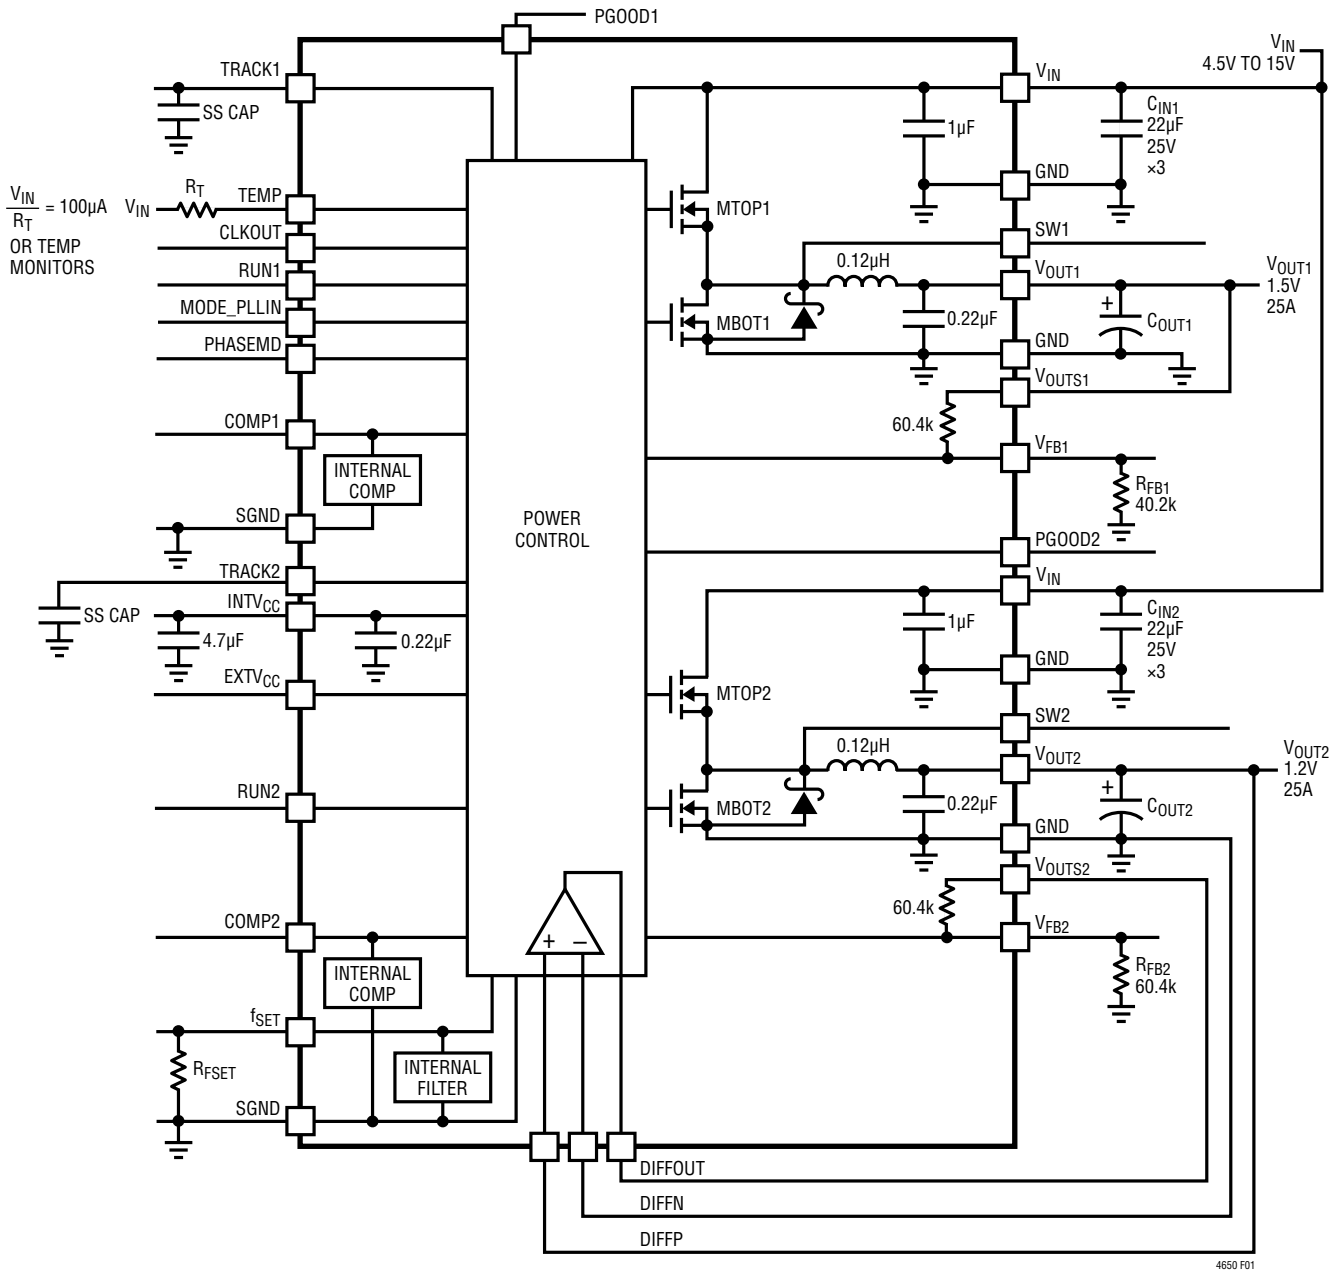

Figure 1. Simplified LTM4650 Block Diagram
**DECOUPLING REQUIREMENTS**  $T_A = 25^\circ\text{C}$ . Use Figure 1 configuration.